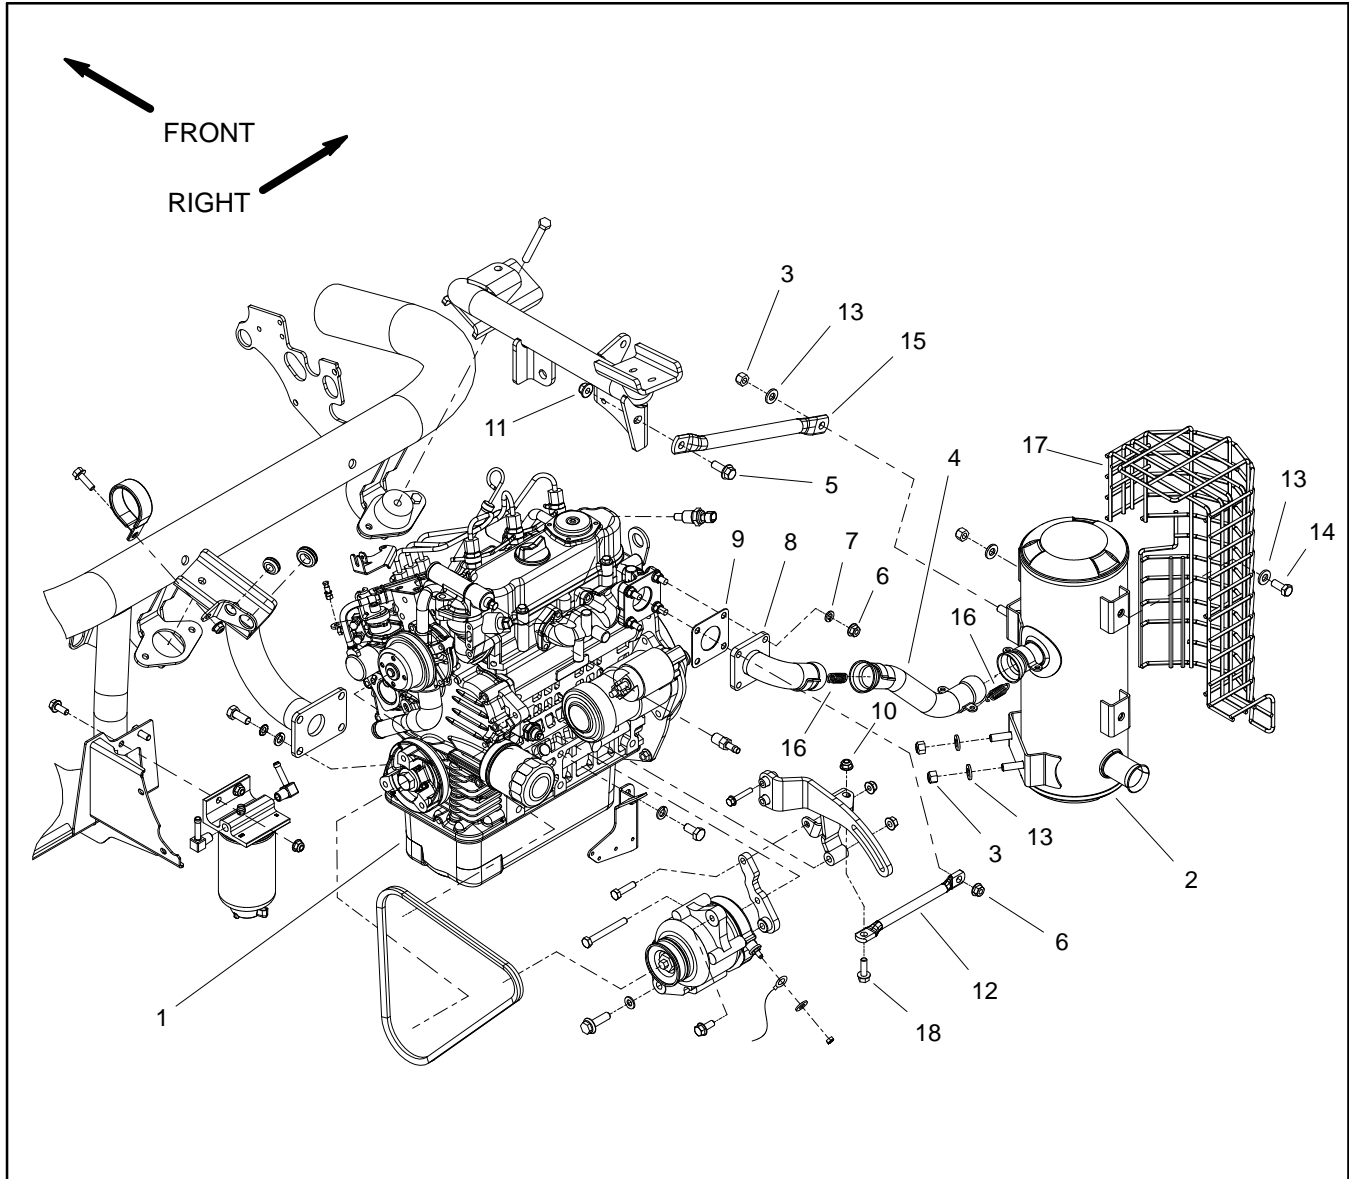

Figure 5
## Exhaust System Removal (Fig. 5)
2. Remove exhaust system components as needed using Figure 5 as a guide.
**NOTE:** Muffler assembly is secured to brackets on piston (traction) pump with lock nuts (item 3) and flat washers (item 13).
## Exhaust System Installation (Fig. 5)
2. If exhaust gasket (item 9) was removed, place new exhaust gasket on the engine exhaust manifold.
3. Assemble all removed exhaust system components using Figure 5 as a guide.